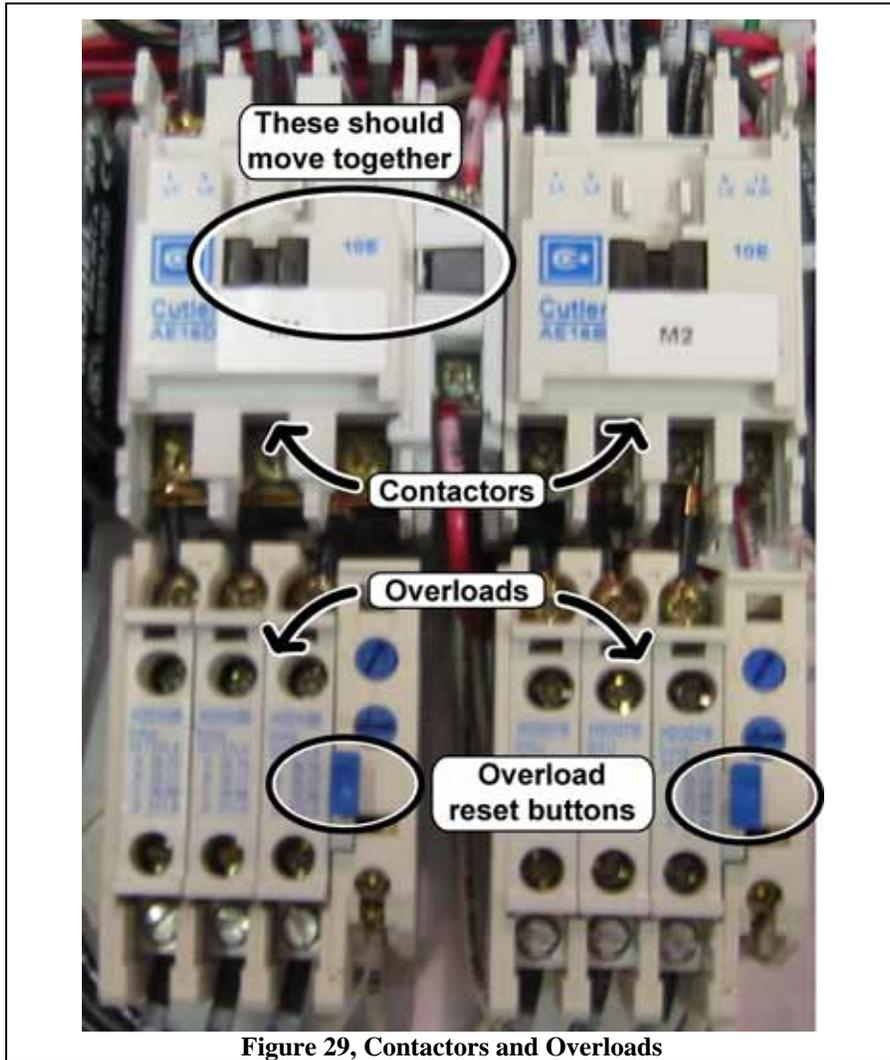

Figure 29, Contactors and Overloads
Step 1) Check that the overloads attached to the contactors are reset with no red indicator (pull gently, then push back down.) (Figure 29)
Step 5) With power disconnected, manually push in the center of the M1 contactor (Figure 29), the small switch between the two contactors should follow the movements of M1.
Step 4) Check that the overloads attached to the contactors are reset with no red indicator (pull gently, then push back down.) (Figure 29)